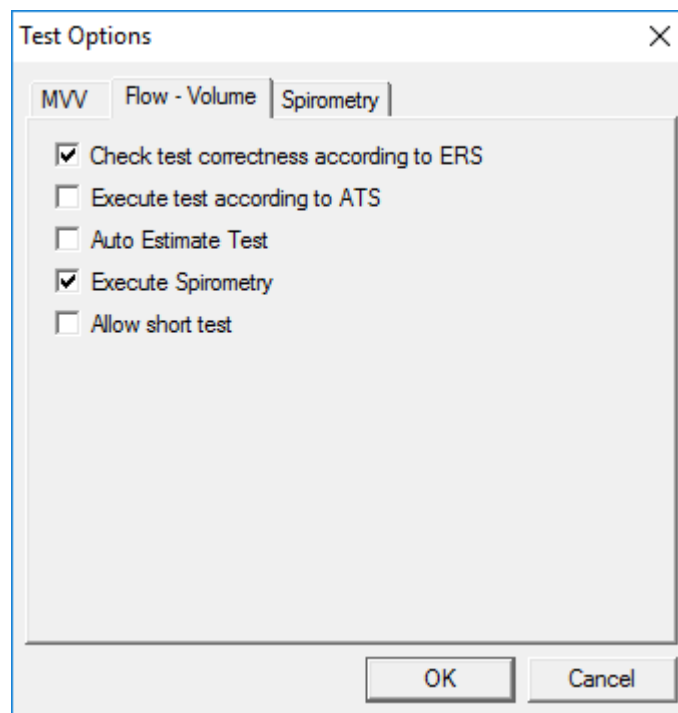

Fig. 7. Dialogue box *Test options – Flow-Volume*
Test options are accessible on the fold *Flow-Volume*(⇒ Fig.7) of *Test options* dialogue box (⇒ Chapter 3, item 2).